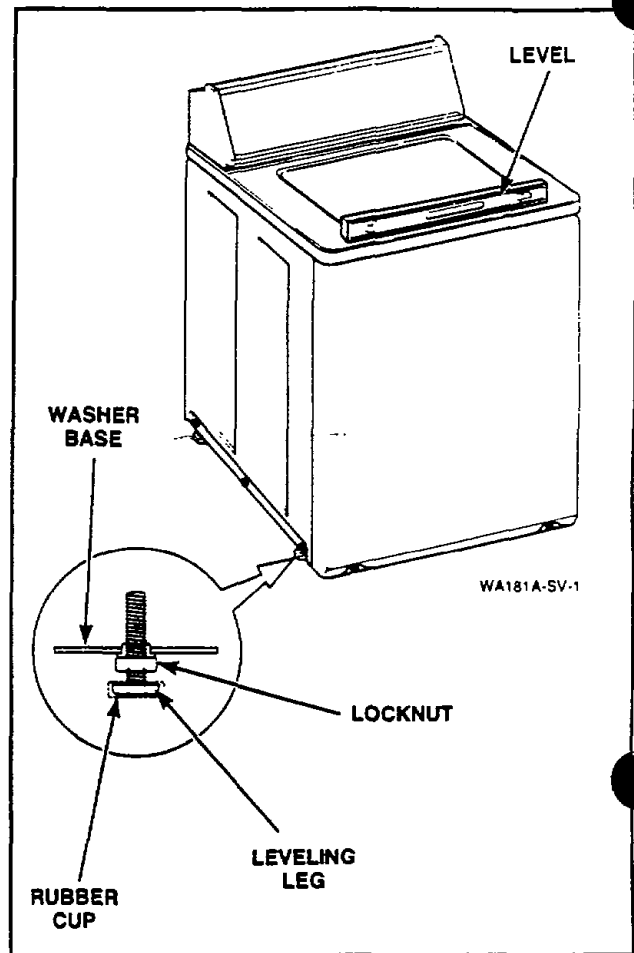

Figure 68
38. LEVELING LEGS (Refer to Figure 68)